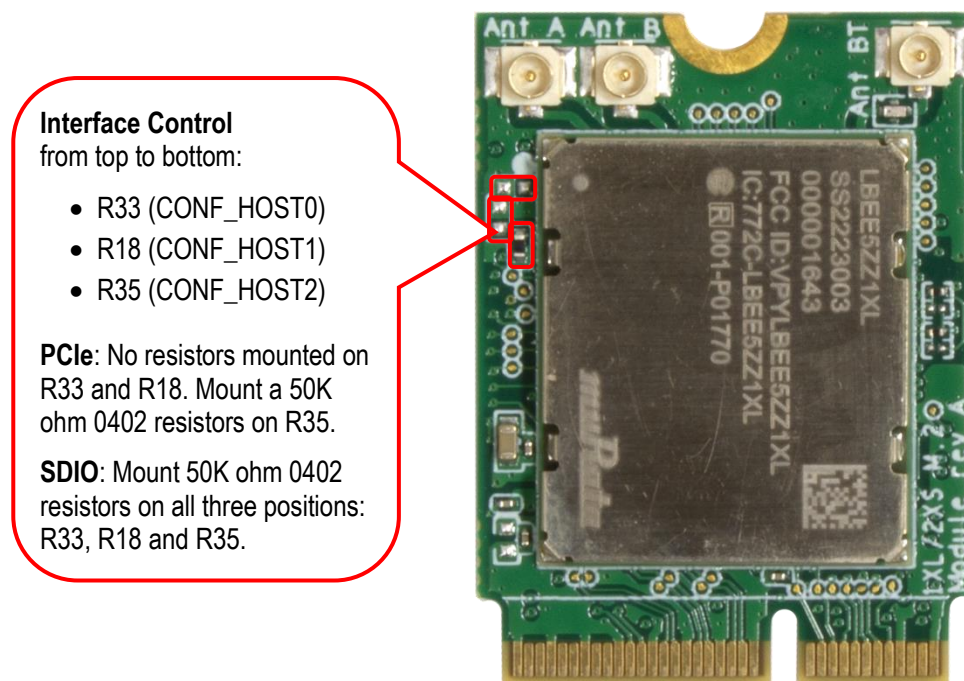

Figure 4 – 1XL / 2XS M.2 Module Wi-Fi Interface Control, rev A and rev PB2
**Note** that it is not enough to connect a 3.3V supply to pin 64. Resistor R41 must be mounted and resistor R44 must be removed. See Figure 4 for location of these resistors.